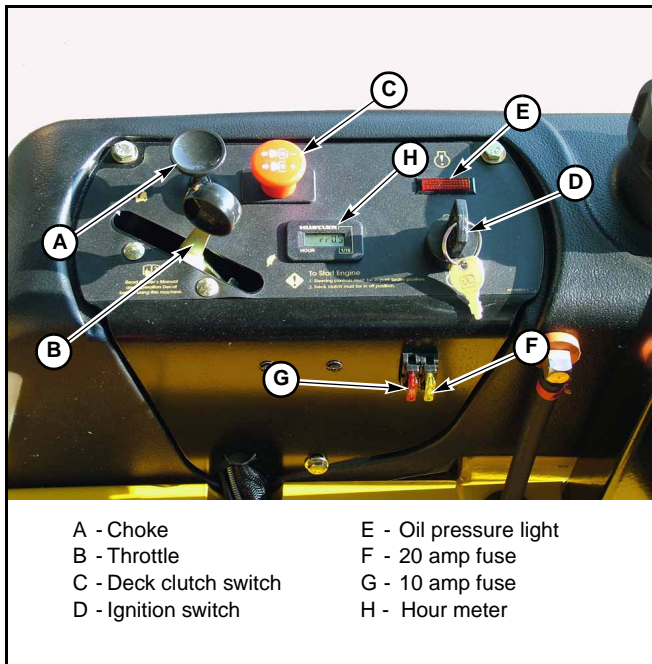

Figure 3-1
- A. Choke control (Fig. 3-1)** — a cable is linked to manually operate the engine choke. When the control knob is in the down position, the choke is in the off (run) position. When the control knob is pulled up, the choke is in the on (start) position. **Do not** operate the machine in the on (start) position.
- B. Throttle control (Fig. 3-1)** — a cable is linked to engine throttle for controlling engine speed. Move lever forward to increase engine rpm, move lever rearward to decrease engine rpm.
- C. Deck clutch switch (Fig. 3-1)** — this switch engages the deck. Pull the switch up to engage and push switch down to disengage the clutch.
- D. Ignition switch (Fig. 3-1)** — a three position switch: off, run, and start. With key inserted, rotate it clockwise to START position; release key
- E. Oil pressure light (Fig. 3-1)** — this light comes on when the ignition switch is placed in the RUN position and stays lit until the engine is running and a safe oil pressure is developed. If light comes on during operation, shut engine off immediately and locate and correct the problem.
- F. 20 amp fuse (Fig. 3-1)** — Main - 20 amp, blade-type
- G. 10 amp fuse (Fig. 3-1)** — Clutch/Aux - 10 amp, blade-type
- H. Electronic hour meter (Fig. 3-1 & 3-5)** — registers 1/10 hour increments up to 9,999.9 total hours. Connected to the ignition switch, the meter records the accumulative time while the ignition key is switched to the RUN position. **NOTE:** The hour meter is found in various locations on different tractors.